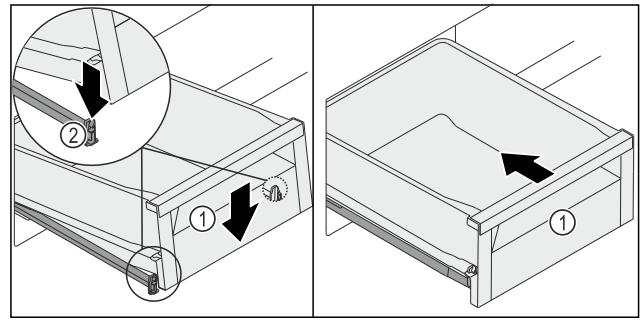

Fig. 120
- ▶ Lower the drawer Fig. 120 (1) at the front so that the drawer slides into the clamp Fig. 120 (2) on the left and right.
- ▶ The drawer Fig. 120 (1) locks in audibly.
- ▶ Push in the drawer Fig. 120 (1).